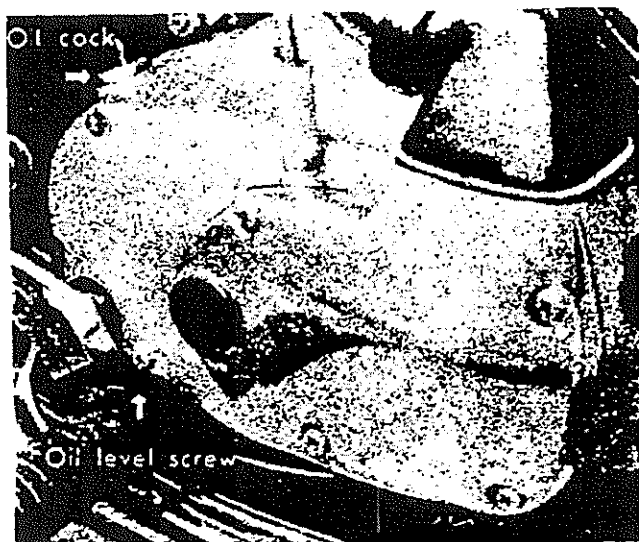

Fig. 31
- b) When refilling new transmission oil, take off oil cock and fill in 0.7 litre (0.19 US gal.) (Fig. 31)
- c) Check the oil level, only when the oil has settled in the transmission case. Screw out the oil level screw bolt and if it is covered with oil, the case is correctly filled. (Fig. 31)